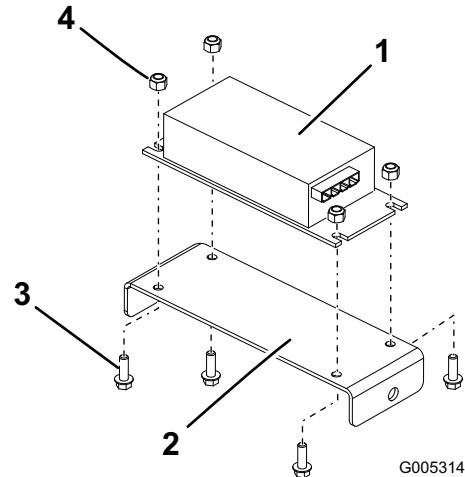

Figure 2
1. Assemble the 12V converter to the converter mount plate (Figure 2).
2. Secure the converter to the mount plate using four bolts (1/4 x 3/4 inch) and four locknuts (1/4 inch) as shown in Figure 2.